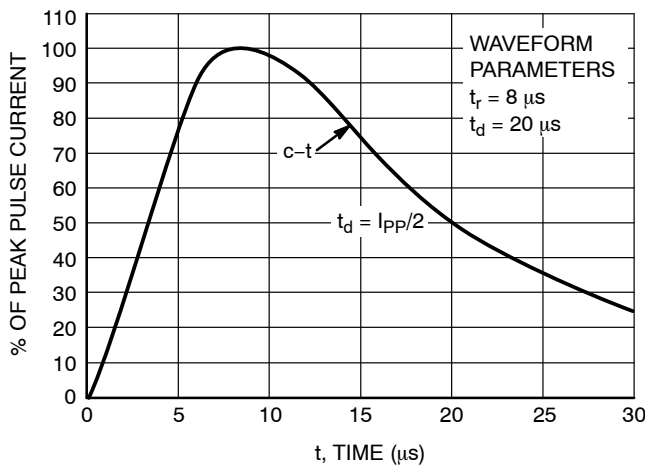

Figure 1. Pulse Waveform, 8/20  $\mu\text{s}$
1. Non-repetitive current pulse per Figure 1.
4. Pulse waveform per Figure 1.